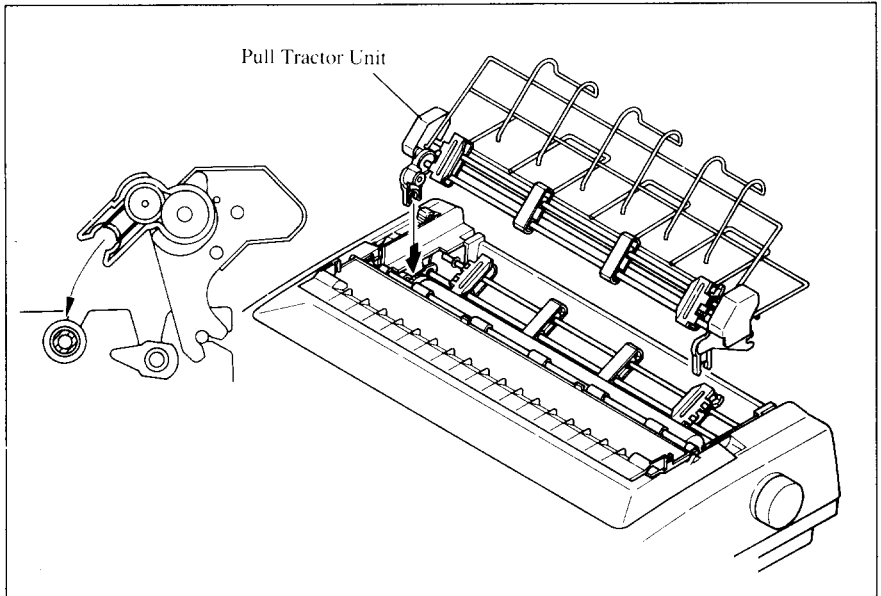

Figure 3-13. Mount the Pull Tractor Unit onto the printer.
6. Secure the Pull Tractor Unit firmly by lowering it into position, as shown in Figure 3-13.